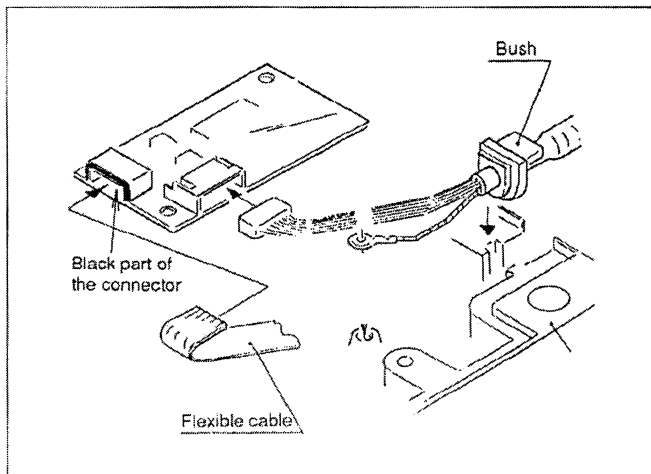

Fig. 21
1. Connect the cable connector to the preamplifier connector as shown in Fig.21
4. Insert the cable bushing into the slider (see Fig.21)